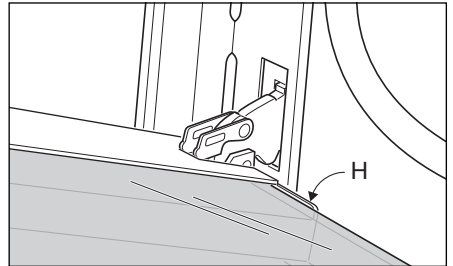

Fig.43c
- Insert the pane in the left "E" and right "F" slide guides, and gently slide it to the retainers "H" (Fig. 43c).